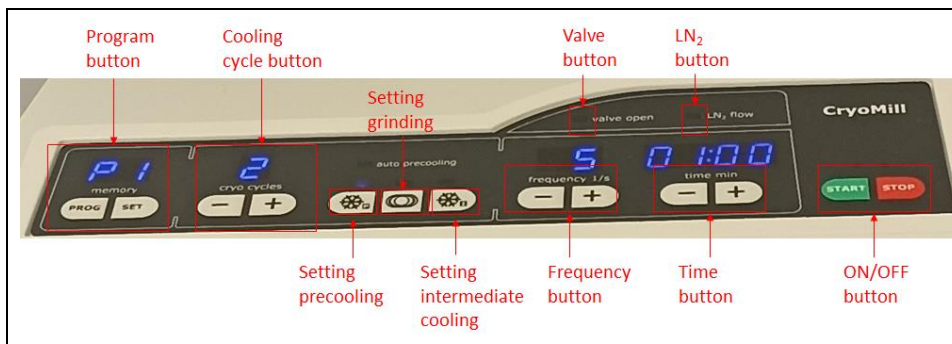

Fig. 6: Operating controls, displays and functions.
- Set Up the program (Fig. 6). If you need cooling, press the Precooling button, the minimum frequency is 5 Hz, and the system's cooling takes 5 mins. After cooling, always use gloves, sheets, and the opening aid for manipulating the cell. It is possible to set up five cycles. Recommended time for the first grinding cycle is about 2 minutes. Check the grinded sample in the cell, and continue if necessary. Grinding protocols for different materials are available in the printed version or on the website [Application Database - Milling & Sieving - RETSCH](https://www.retsch.com/en/application-database/milling-sieving). More details for set up are in the Manual, page 40. Push the Start button.